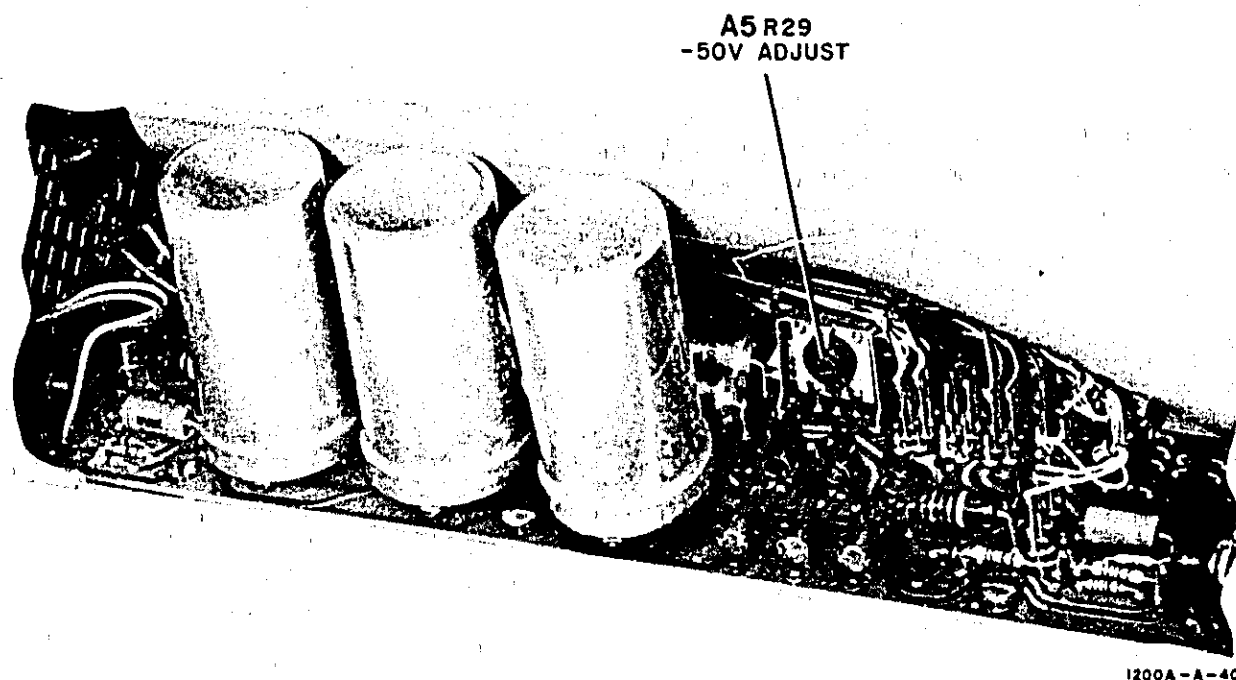

Figure 5-1. Low Voltage Power Supply Adjustment
5-37. Physical location of all internal adjustments is shown in figures 5-1 through 5-5. Only channel A vertical attenuator and preamplifier adjustments are shown in figure 5-4. To find the corresponding channel B adjustments, simply change the A1 prefix to A2.
b. Adjust A5R29 (see figure 5-1) for an output of -50 V ± 25 mV.